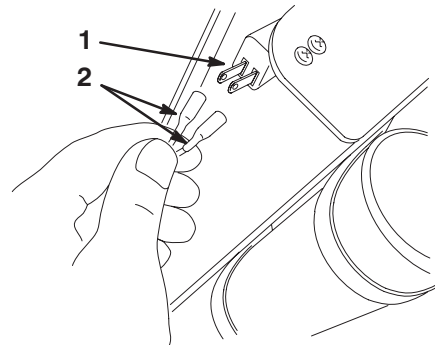

Figure 4
4. Connect the right-angled insulated terminals to the switch (Fig. 4).